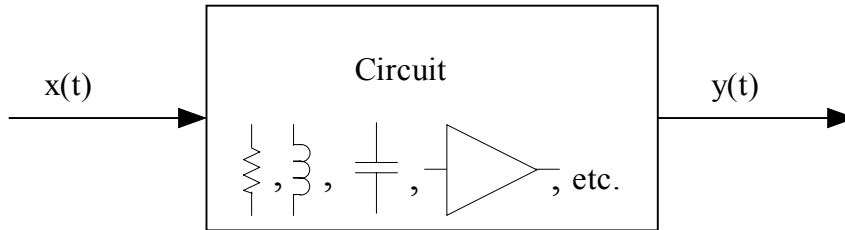

Figure 3.1 Linear circuit and linear circuit elements
*Linearity* is also a fundamental concept in circuit analysis. Consider the block diagram in Figure 3.1. A circuit is called *linear* if it satisfies the following relation: